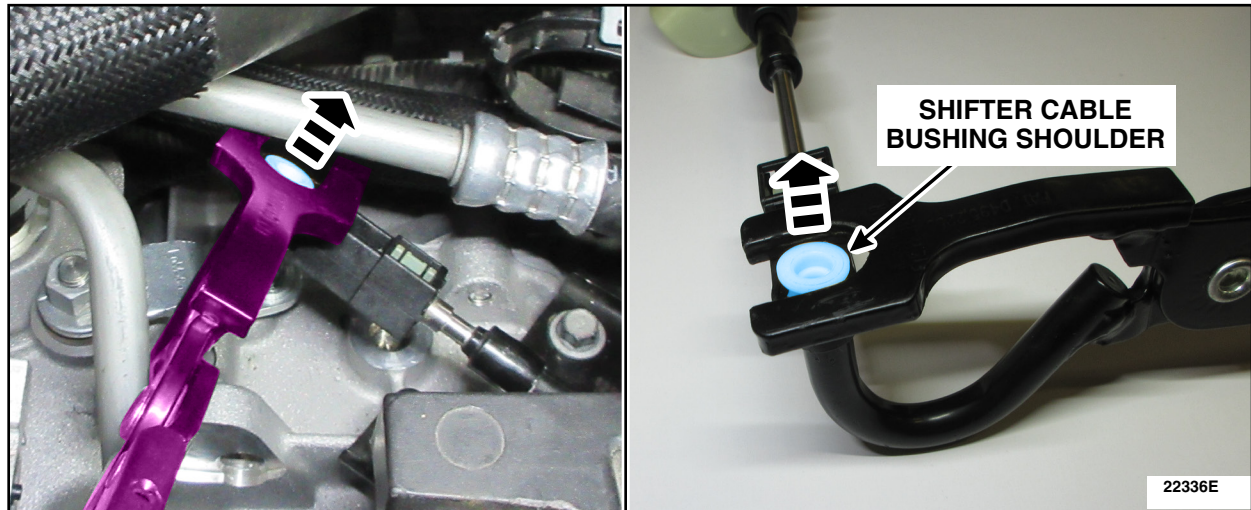

FIGURE 5
- Using a tool such as a Lisle 38350 - Exhaust Hanger Removal plier to press bushing out. By viewing Figure 5 the shoulder of bushing is positioned upward, small end of plier is pressing bushing out. Proceed to Step 7.